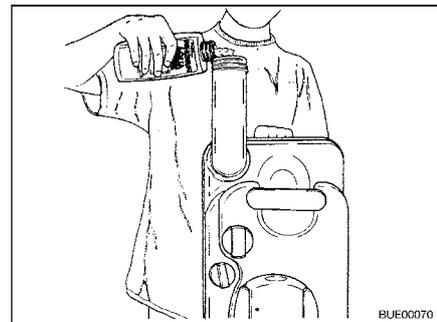

Fig. 179 Filling with sanitary liquid
- Fill the stated amount of sanitary liquid into the sewage tank (Fig. 179).